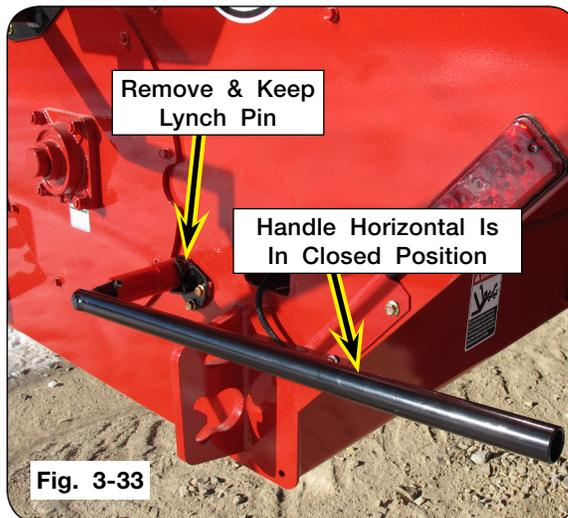

Fig. 3-33
2. Insert tensioner handle into the cleanout door receiver coupler on the rear panel, and remove lynch pin from rockshaft. Keep lynch pin. (Fig. 3-33)